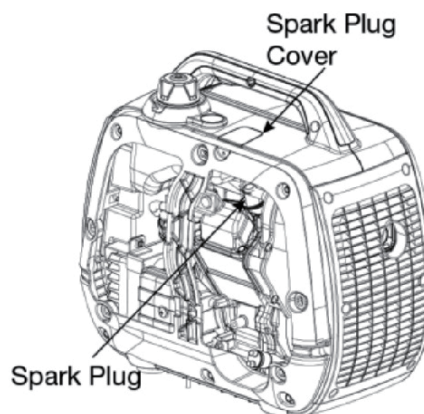

Fig 15B
2. Remove the spark plug cap. (Fig. 15B)